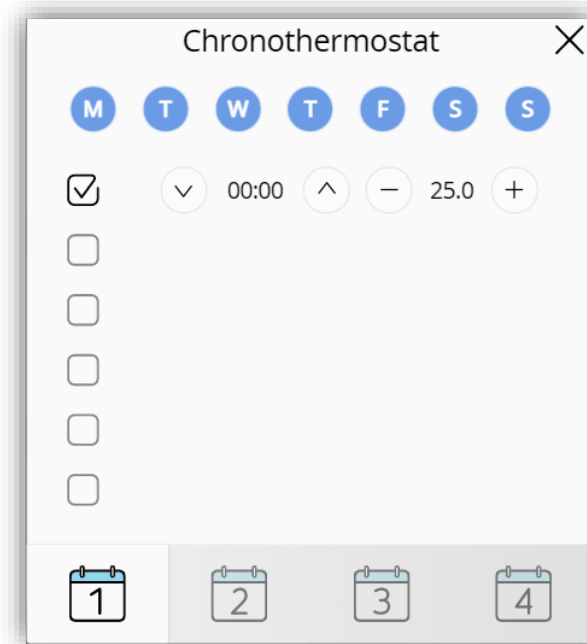

Figure 116. Chronothermostat panel
- **Minimum Setpoint Value** [-99 ... 18 ... 199][°C]: minimum setpoint value that the user can be set on the chronothermostat panel (see Figure 116).
- **Maximum Setpoint Value** [-99 ... 30 ... 199][°C]: maximum setpoint value that the user can be set on the chronothermostat panel (see Figure 116).